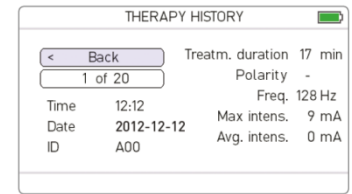

Figure 44. Therapy history / therapy session
5. THERAPY HISTORY (see figure 44) is shown. Here you can view therapy sessions.
8. Select the number with and . (see Figure 44).